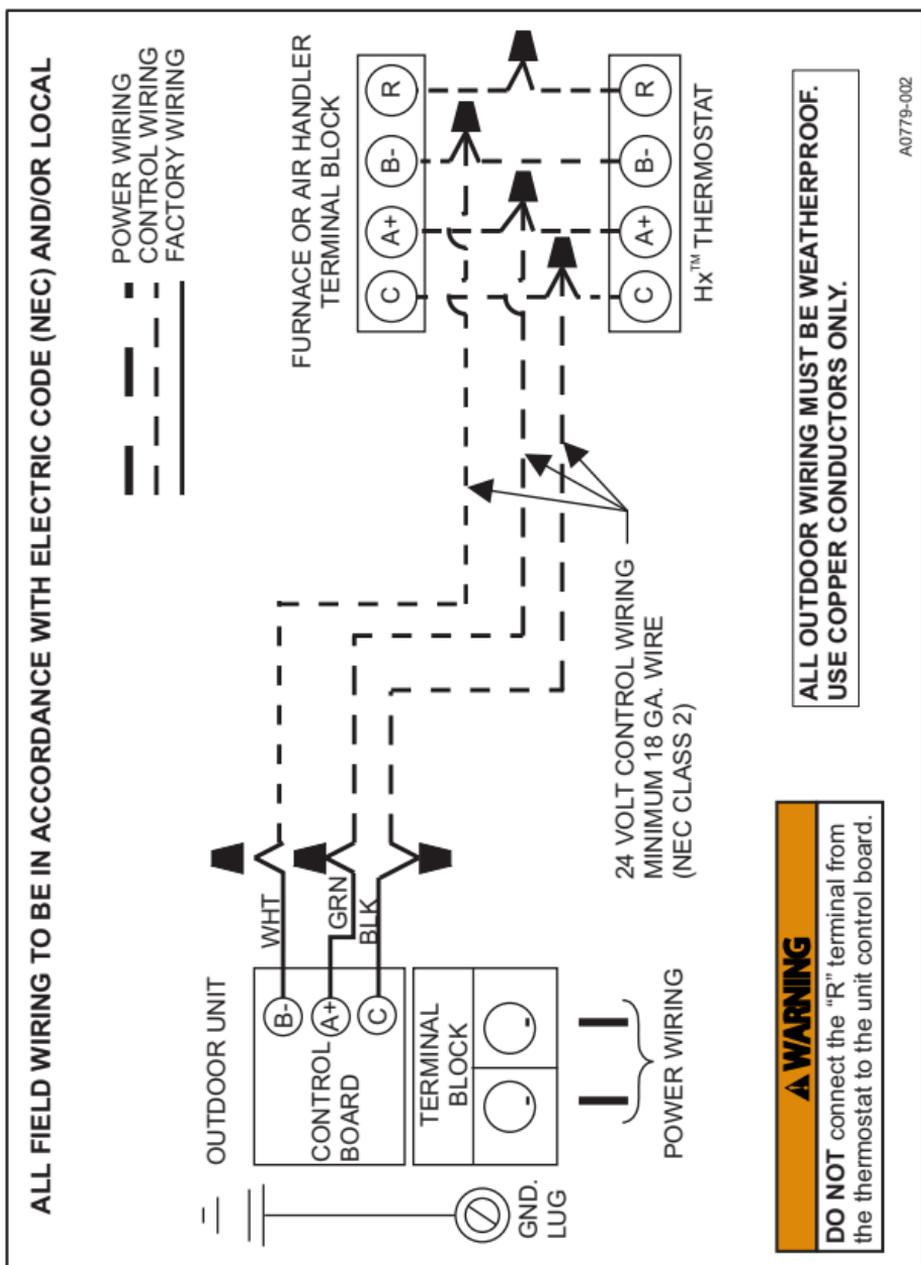

FIGURE 12: Typical Communicating Field Wiring
3. Connect low voltage wiring together using wire connectors. See wiring diagram shown in Figure 12.